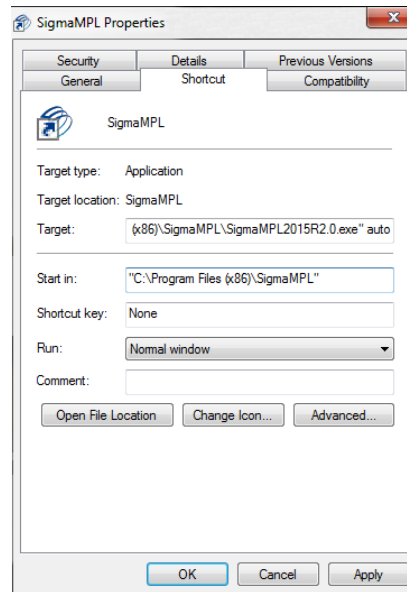

Figure 26: Automatic Startup Setup
- Right click on the *SigmaMPL* icon on the desktop and select **Properties**. Navigate to the *Shortcut* tab and add the word "auto" to the end of the file path displayed in the *Target* field. The full path should read "**C:\Program Files (x86)\SigmaMPL\SigmaMPL2015R2.0.exe**" **auto** (Figure 26). Select **Apply** followed by **OK** to save the changes and exit the properties dialog box.